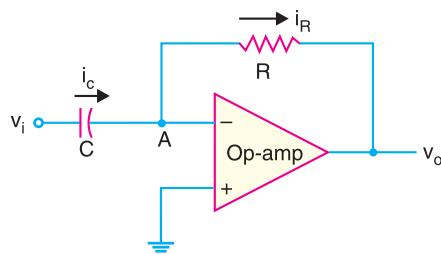
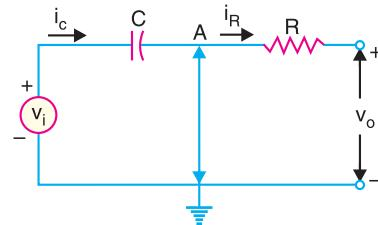

Fig. 25.88
Fig. 25.89
A differentiator is a circuit that performs differentiation of the input signal. In other words, a differentiator produces an output voltage that is proportional to the rate of change of the input voltage. Its important application is to produce a rectangular output from a ramp input. Fig. 25.88 shows the circuit of OP-amp differentiator. It consists of an OP-amp, an input capacitor  $C$  and feedback resistor  $R$ . Note how the placement of the capacitor and resistor differs from the integrator. The capacitor is now the input element.
**Circuit analysis.** Since point  $A$  in Fig. 25.88 is at virtual ground, the virtual-ground equivalent circuit of the operational differentiator will be as shown in Fig. 25.89. Because of virtual ground and infinite impedance of OP-amp, all the input current  $i_c$  flows through the feedback resistor  $R$  i.e.  $i_c = i_R$ .